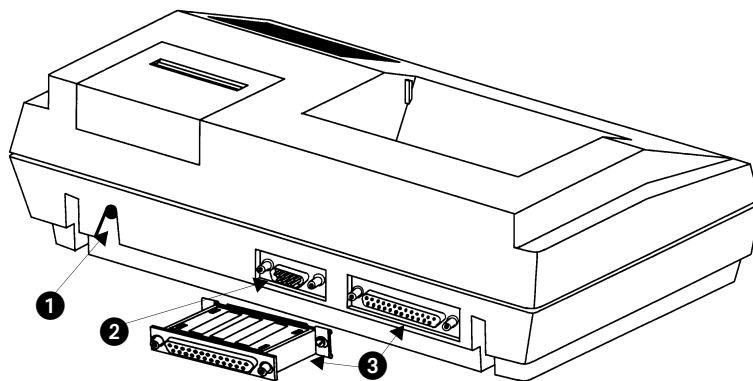
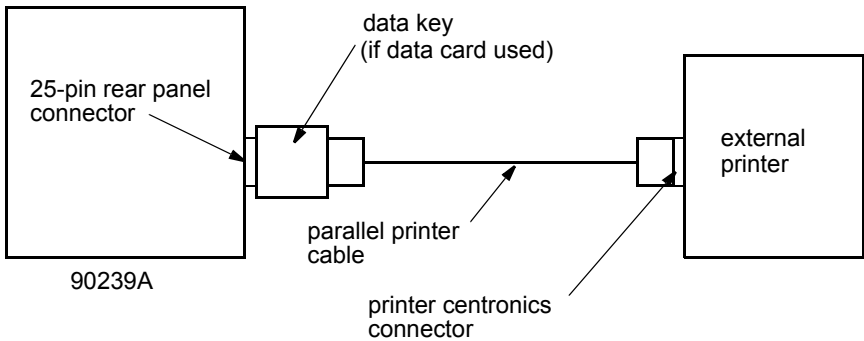

Figure 1-2: 90239A rear view
Figure 1-5: External printer configuration
90239A Report Generators with software versions 1.13.04 and later can print reports and messages on an external printer connected to the 25-pin connector located on the back panel (refer to *Figure 1-2*, item ③). This configuration requires use of a parallel printer cable and, if the Data Card option is used, a data key must be installed between the 90239A rear panel connector and the printer cable. (Refer to *Figure 1-5*.)
Beginning with software version 1.13.04, the 90239A can print reports and messages on an external printer connected to the 25-pin connector located on the back of the report generator. This configuration requires use of a centronics parallel printer cable and, if the Data Card option is used, a data key installed between the 90239A rear panel connector and printer cable. Refer to *Figure 1-5* below.